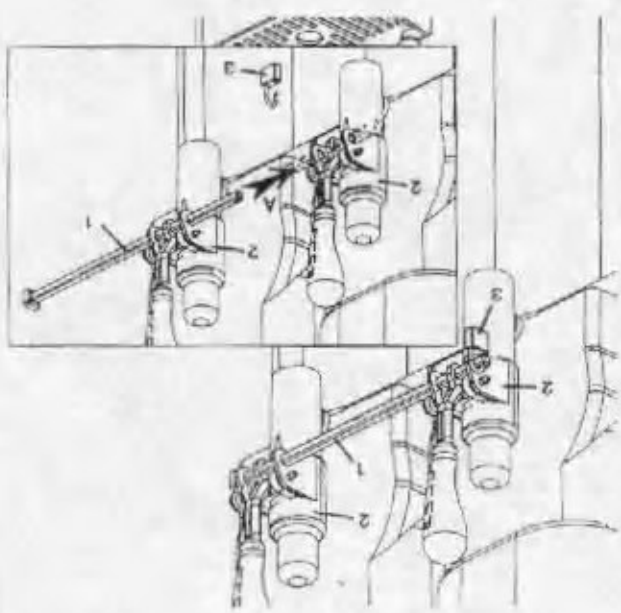

Figure 9
1. The machines come from factory with a handle locking system (fig 9) (locker (3) not included).